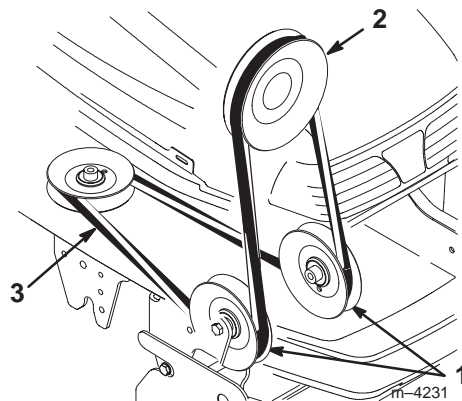

Figure 15
4. Position the belt into the groove of the PTO pulley (Fig. 15), making sure it is also under the pulleys in the pulley box.